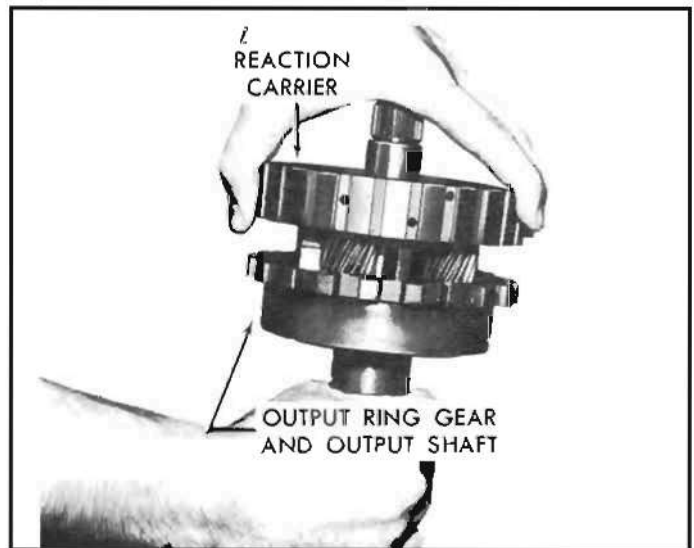

Figure 83 Reaction Carrier Installation
4. Install reaction carrier assembly into output ring gear and shaft assembly. *See Figure 83.*